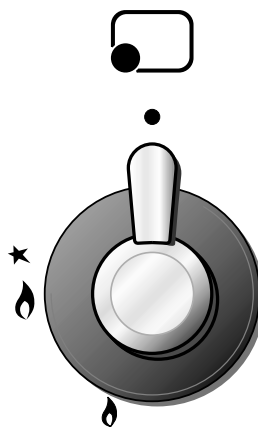

Fig. 4.3
Each hob burner is controlled by a separate gas tap operated by a control knob (fig. 4.3) which has 3 positions marked on the knob, these are:
- 1) Lightly press and turn the knob anti-clockwise, and make knob indicator to match with the symbol  printed on the control panel (fig. 4.3).